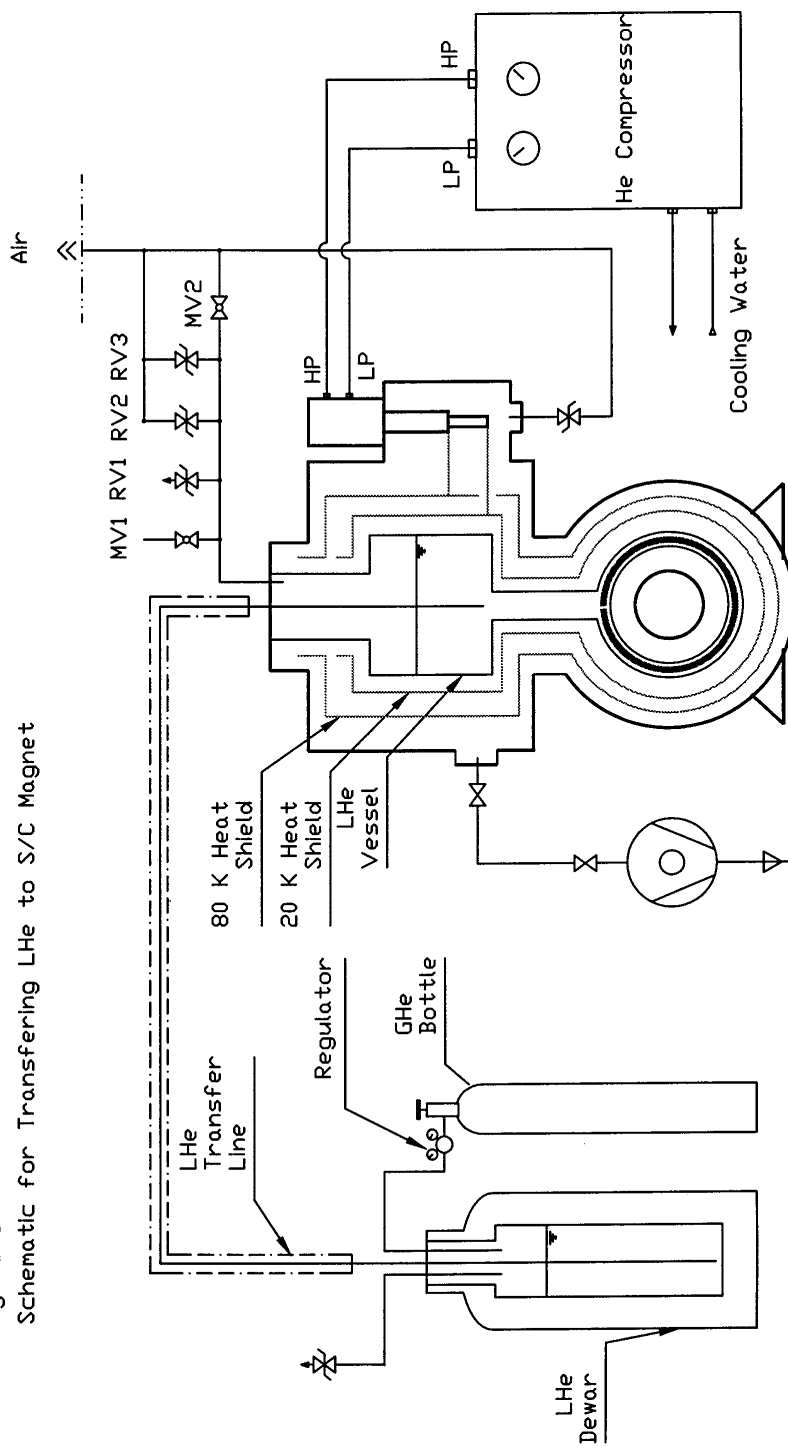

Figure 7
5.9.1 Connect the power cords to the power lead according to Fig. 7.
- 8.8 Figure 7. Schematic for charging magnet.